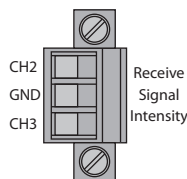

Fig. 4: Analog voltage outputs – connections for 3-pin terminal block
- ▶ These voltage outputs are connected to the front side of the repeater with a 3-pin screw terminal (see Fig. 4).